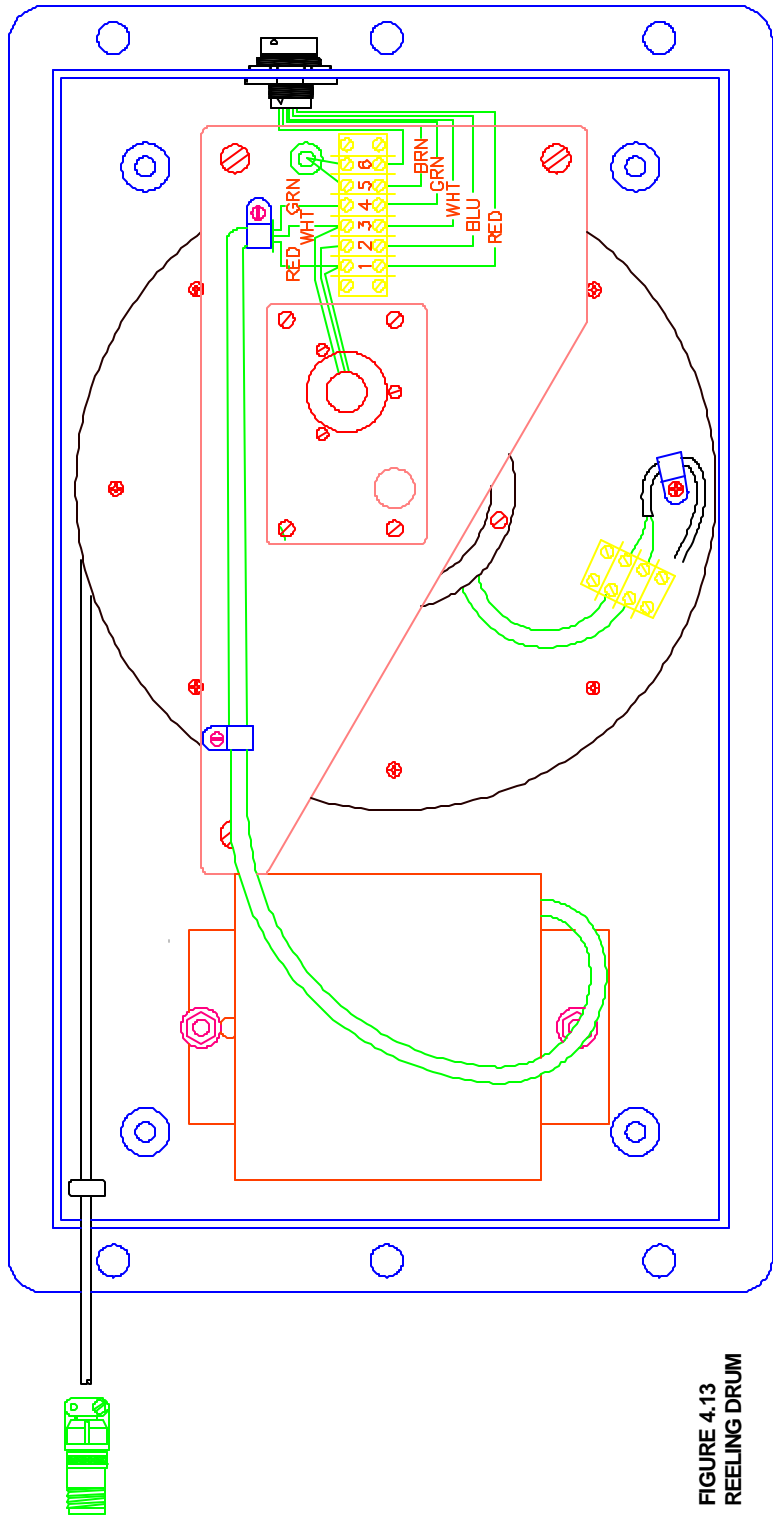

FIGURE 4.13
7. Under the cover on the right side of the Extension Reel, locate the terminal strip (see Figures 4.13 and 4.14). This terminal strip has six wires connected to the bottom screws.
8. Locate the terminal strip (see Figure 4.13) on the right side of the extension reel. This terminal strip has six wires connected to the bottom screws.
1. Refer to Figure 4.13. Access the Angle Sensor by removing the cover from the Extension Reel Assembly.
1. Install the new Angle Sensor and secure it loosely with the two mounting nuts and washers. See Figure 4.13.